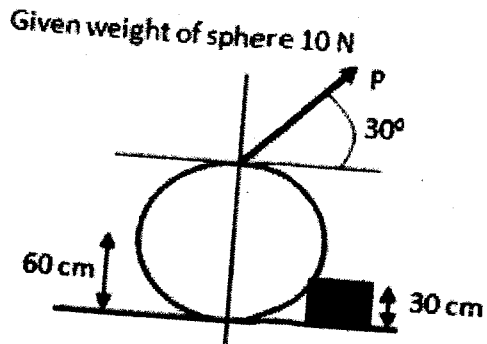

Figure 1
2. Find out magnitude of force P required to start the roller over the step as shown in figure 1.